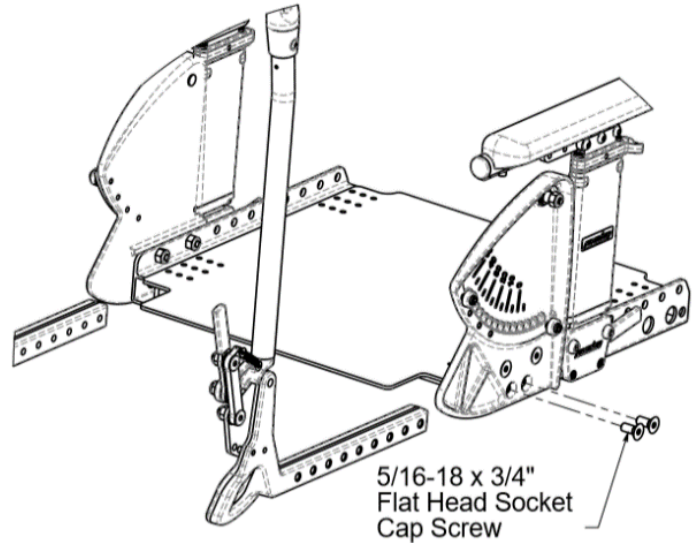

Figure 14.2: Adjusting the seat depth
1. Loosen and remove the two 5/16-18 flat head fasteners on each side (see Figure 14.2).